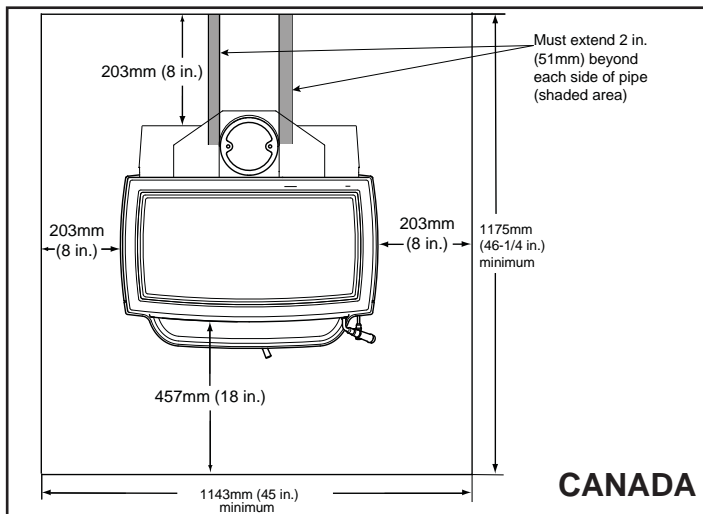

Figure 14.2
**In Canada,** similar floor protection must be provided 18 inches (457mm) in front and 8 inches (203mm) from the sides and rear of the stove. **Figure 14.2**